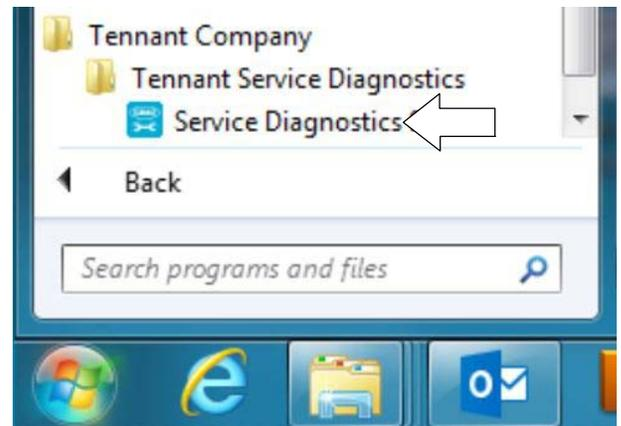

Fig. 24
The software application is titled "Service Diagnostics". (Figure 24).
7. After the application software is installed on your computer, refer to figure 24 to access the program.